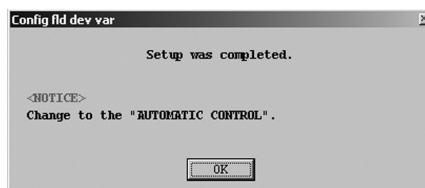

Fig.26
- ⑦ When the previous settings are replaced with the new settings just entered in response to clicking on "OK", a message box as shown in Fig. 26 appears. Clicking on "OK" button at this point completes the setup.